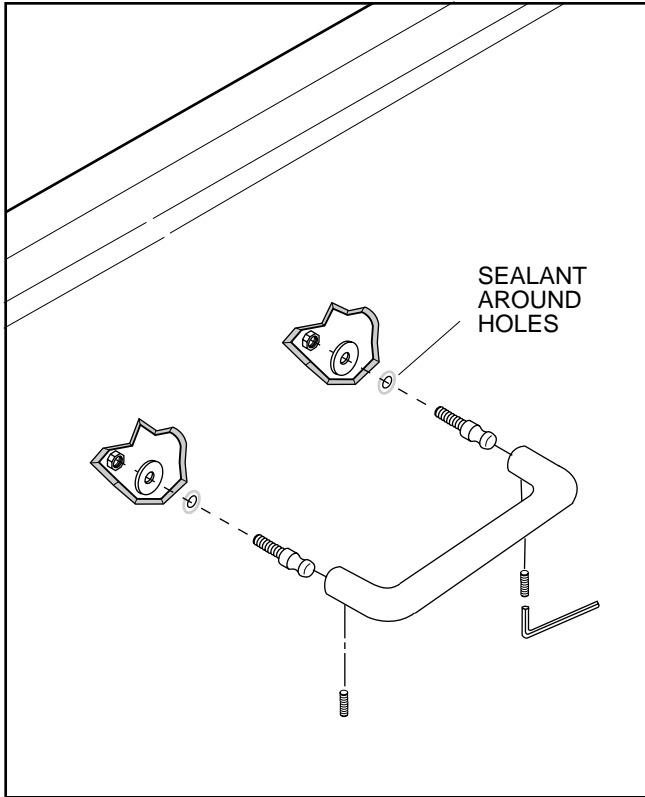

Figure 3. Fastening the handle to the bath.
6. Put sealant (not provided) around each hole before inserting the handle mounting studs, as shown in Figure 3. Remove excess sealant.
7. Fasten the mounting studs to the bath with the washers and lock nuts provided and tighten in place, as shown in Figure 3.
9. Using the hexagonal wrench from the kit, secure the handle firmly to the studs with the set screws, as shown in Figure 3.